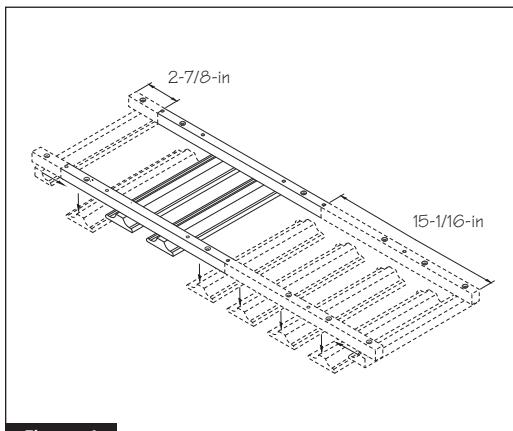

Figure 4
- 1** Place Stem Glass Holder unit on flat surface with the mounting strips facing up. Please note that the unit has a left (4-holes) and a right (5-holes). Using the screwdriver, remove the first two (2) rails on the left and replace the first (smaller) rail where the second rail was. Using the screwdriver, remove the first five (5) rails on the right and replace the first (smaller) rail where the fifth rail was. With Pencil, mark each end of both mounting strips. See Figure 4.